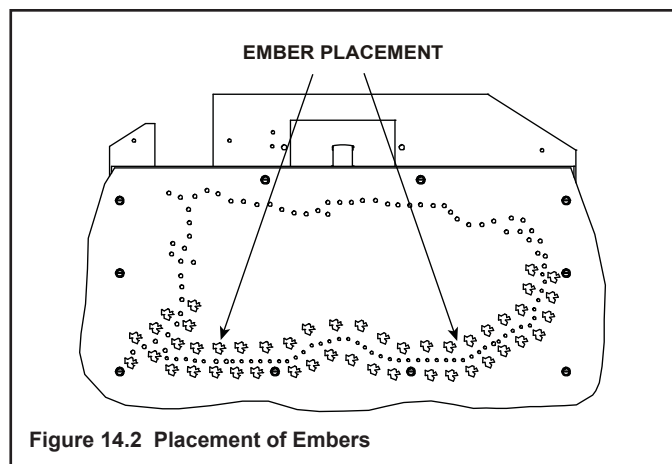

Figure 14.2 Placement of Embers
- When placing Glowing Embers® onto the burner care should be taken so that the ports are not covered. Place the dime-size ember pieces in front and behind of the port trail, but not on or in between the ports (see Figure 14.2). Failure to follow procedure will likely cause lighting and sooting problems.
Pull the four glass assembly latches out of the groove on the glass frame. Remove glass door from the appliance (see Figure 14.2).